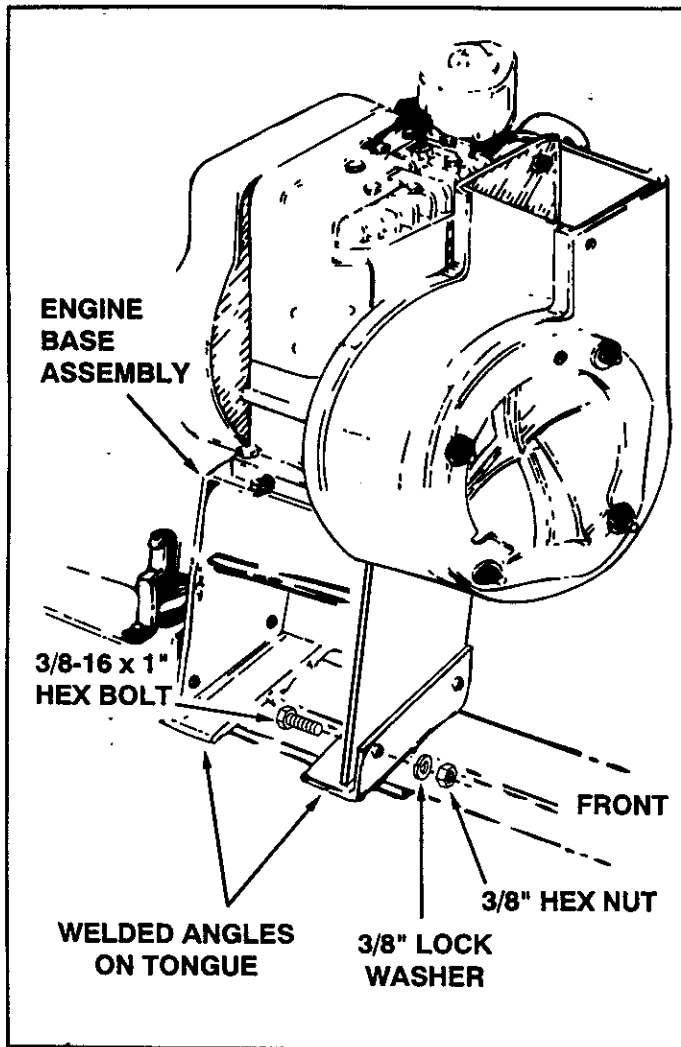

FIGURE 12
- Place the engine assembly (blower housing to the front) onto the welded angles of the tongue, aligning the holes in the engine base with the holes in the welded angles. See figure 12.
- Secure the engine base assembly to the welded angles using four 3/8" x 1" hex bolts, 3/8" lock washers and 3/8" hex lock nuts. See figure 12. Tighten all nuts and bolts securely.